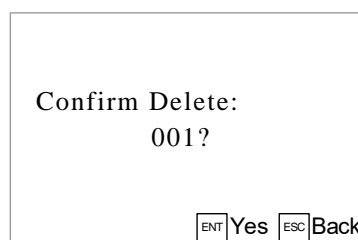

Fig. 3-3: Processing File Deleting Interface
- 2) Before deleting, the system will confirm delete or not as following fig. 3-3. In processing file deleting interface, press “**ENT**” button to delete, press “**ESC**” button to cancel and return back to processing file list interface.